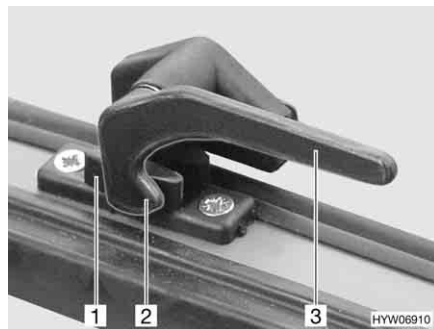

Fig. 96 Catch lever in "closed" position
- Turn all catch levers (Fig. 96,3) a quarter turn towards the centre of the skylight.
- Turn all catch levers (Fig. 96,3) a quarter turn towards the frame. The locking catch (Fig. 96,2) is located on the inside of the skylight lock (Fig. 96,1).
- "Firmly closed" (Fig. 96)